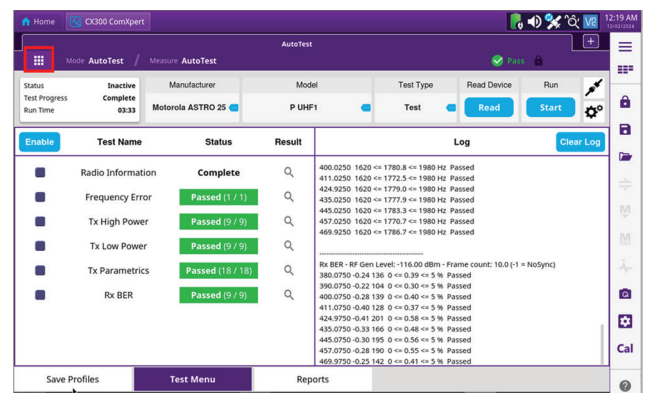

Figure 7
- Once the Test/Alignment is complete tap the **“Reports”** tab (Fig. 7) and highlight the Report and select **“View Report”**.